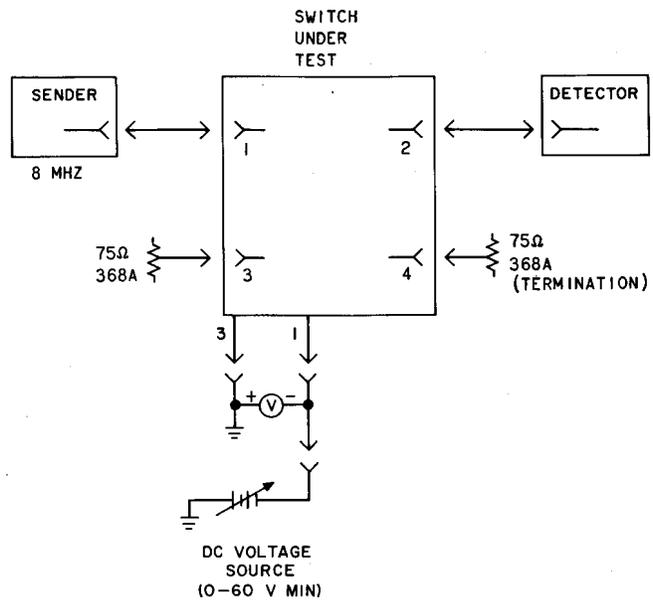

Fig. 19—Insertion and Isolation Loss/Test Circuit
- (c) Connect test circuits input to output (Fig. 19). Adjust sender's output level for 0 dBm. Calibrate detector to this level. This process will eliminate test circuit losses. The detector should now indicate a true insertion loss reading.
(d) Insert a 223D (223E) switch into the test circuit of Fig. 19, referring to Test 1 of Table C for proper input and output connections, measurements, and type of measurement. Terminate each unused jack with a 368A termination (two required).